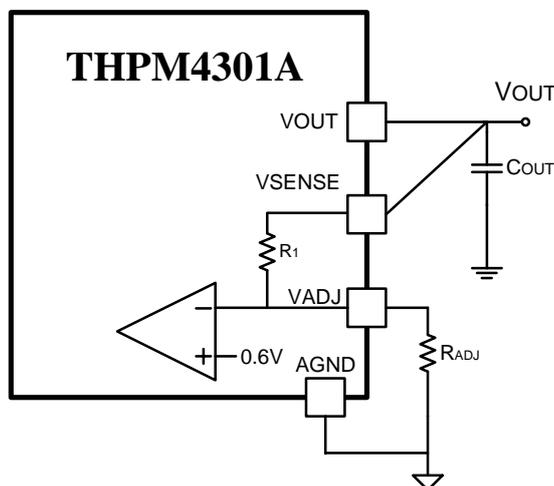

Fig. 15 Output Voltage Setting
VADJ (H4)	Output voltage adjustment pin . Connect a resistor, R _{ADJ} , between VADJ pin and AGND pin to set the desired output voltage, as shown in Fig. 15.
The output voltage of THPM4301A can be adjusted from 0.6V to 3.6V using an external resistor between VADJ pin and AGND pin, as shown in Fig. 15. The required resistor value R_{ADJ} can be calculated using equation (1).
where $R_1 = 20k\Omega$ and V_O is the desired output voltage in Volts. For best set-point accuracy, it is recommended to use a 0.1% tolerance resistor. [Note: R_1 is internal to the module as shown in Fig. 15].